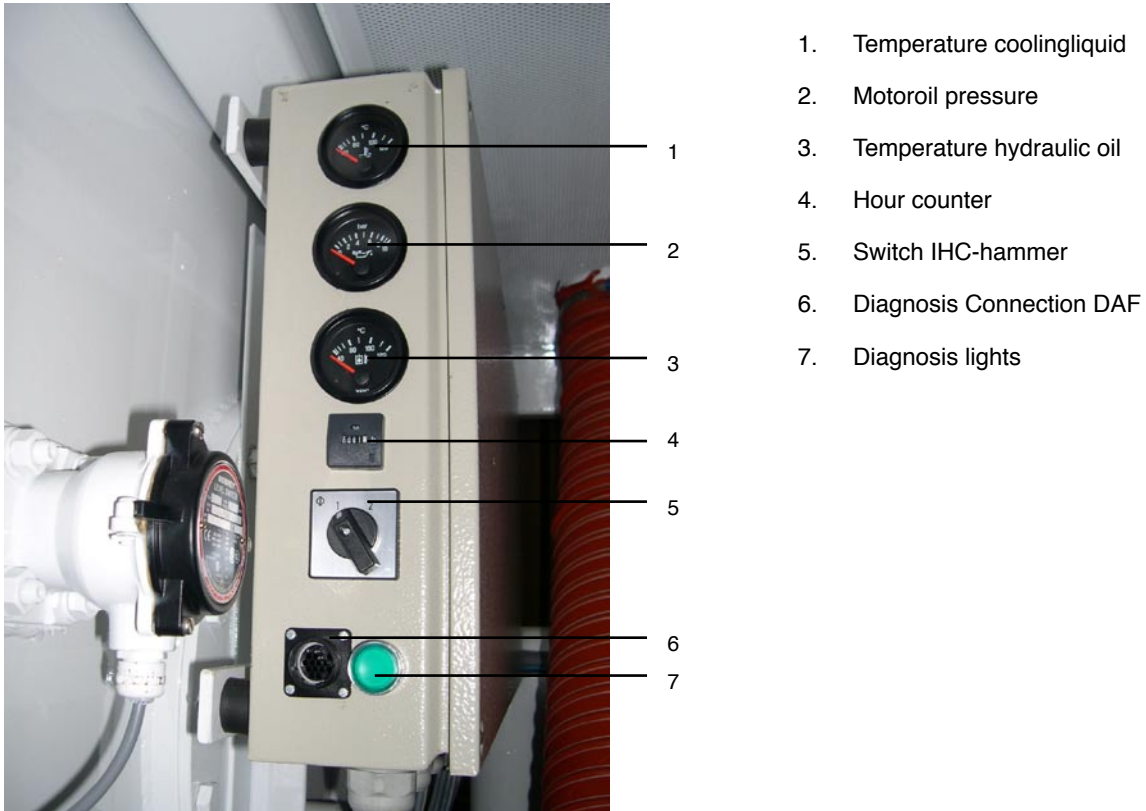

Fig. 1.06
1. Put 2 position switch on the main box in the powerpack in position 2 (see fig. 1.06), the green control light on the operating box is then OFF. (fig 1.05b nr. 6).
1. Put 2 position switch on the main box in the powerpack in position 1 (see fig. 1.06), the green control light on the operating box is then ON. (fig 1.05b nr. 6).